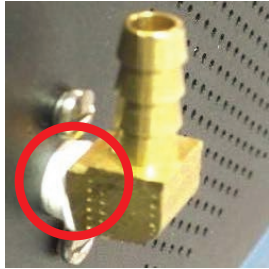

FIGURE 5. Thread Tape on Fitting.
1. Before installing the fitting onto the back of the dehydrator, first apply some Teflon® thread tape (or compatible thread sealant) around the threads of the fitting you will be using. Refer to Figure 5.